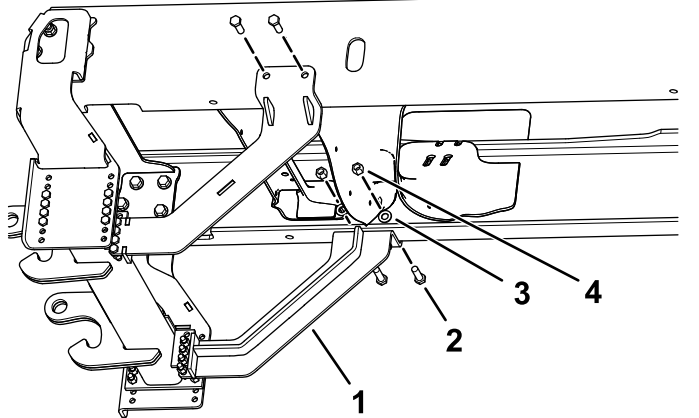

Figure 5
- Secure the angle brackets to the vehicle frame using 4 bolts (5/8 x 2 inches), 4 washers, and 4 nuts (5/8 inch) as shown in Figure 5.